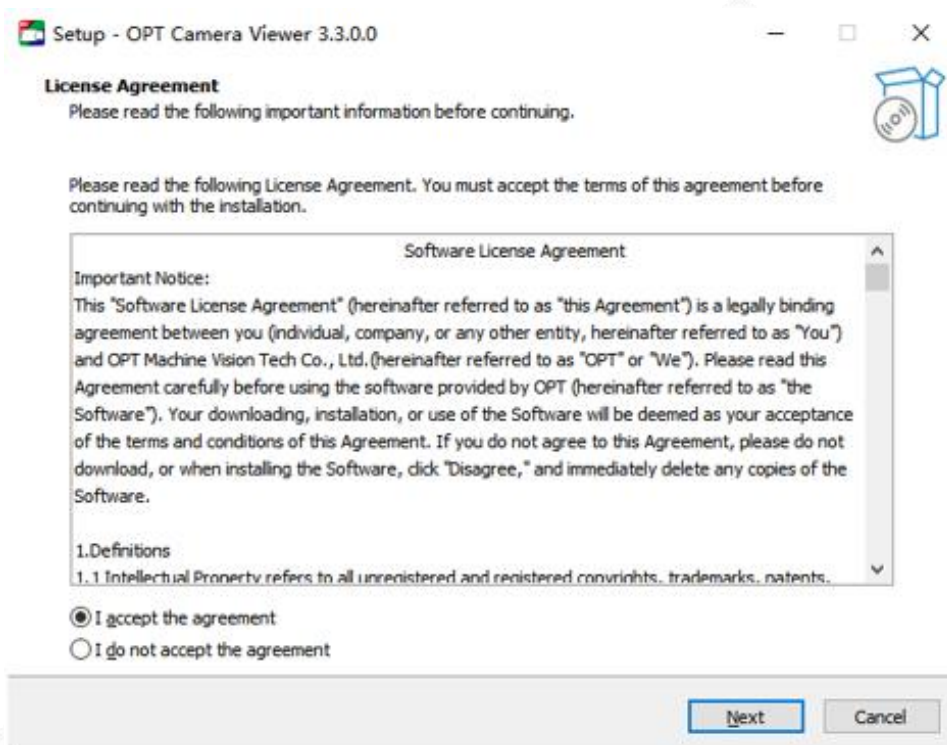

Figure 3-1 License Agreement Window
Step 2 The license agreement window pops up as shown in Figure 3-1. After reading the license agreement carefully, confirm that you agree to the license terms, and then click One step button to continue the installation process.